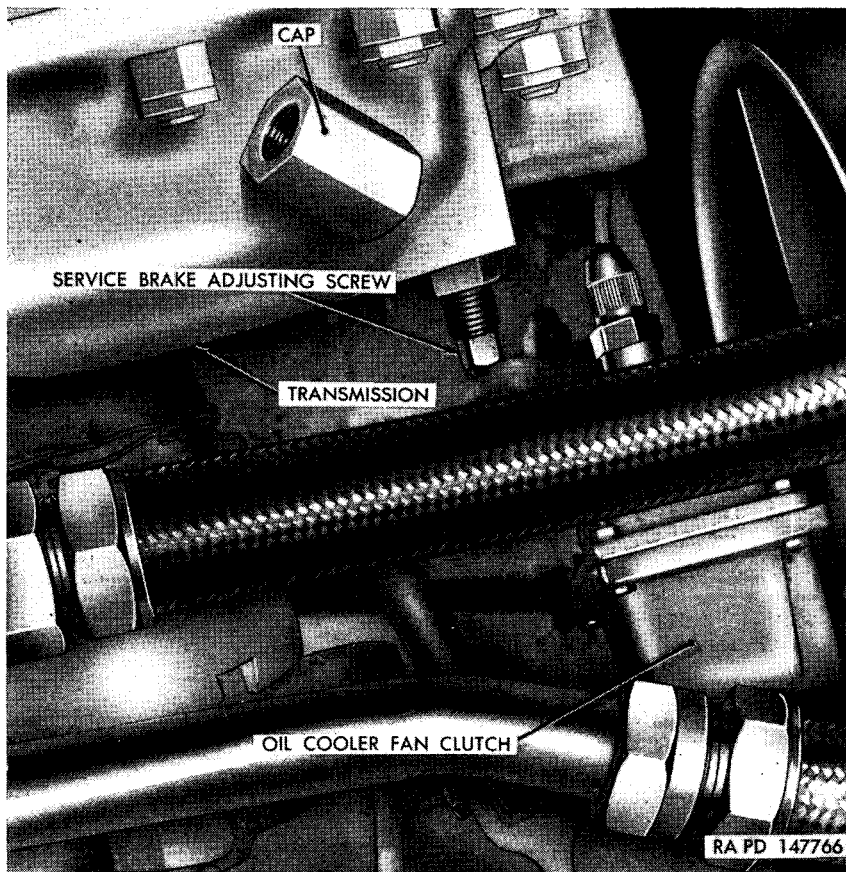
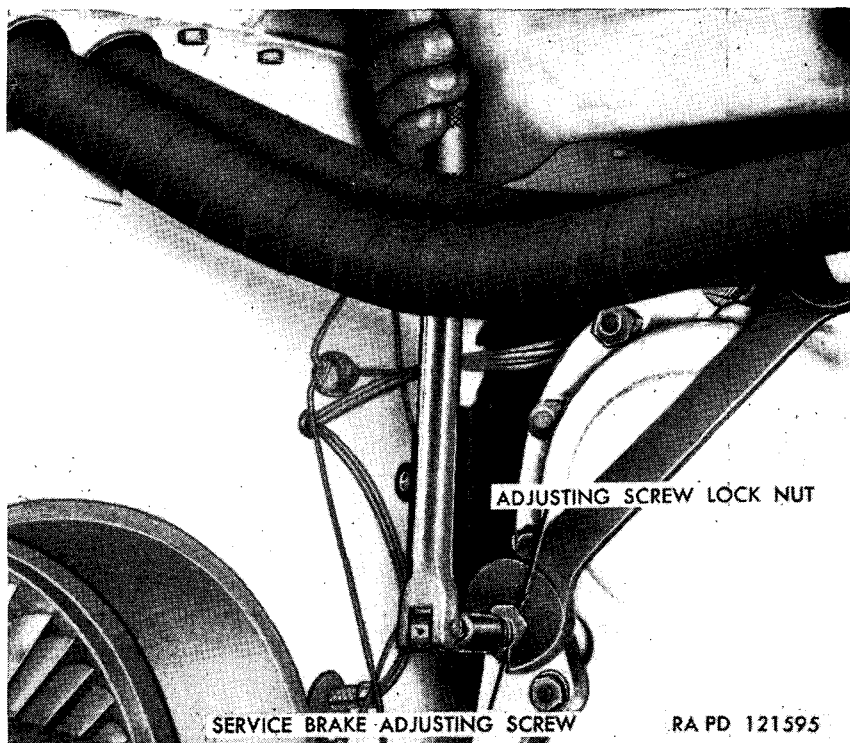

Figure 280. Service brake adjusting screw cap—removed.
Figure 281. Adjusting service brakes.
- (1) *General.* A choice of two methods of brake check and adjustment are available ((2) below). Adjustment by either method is effected by shifting the position of the stationary cam ring of the disk-type brakes. A service brake adjusting screw (fig. 280) (with a worm thread on internal end) projects through each end cover of the transmission and provides an external means of adjusting brake clearance. The screw is covered by a cap (fig. 280). Turning the service brake
adjusting screw (fig. 281) actuates an internal worm, which causes rotation of the stationary cam ring.
parking brake (par. 13) if it is engaged. Remove engine compartment left and right rear grille doors (fig. 101). Remove the cap from the service brake adjusting screw (fig. 280) and loosen the lock nut. Turn the adjusting screw (fig. 281), so that the brake linkage rod travel is between $1\frac{3}{16}$ and $1\frac{27}{32}$ inches from the released to the fully applied positions of the service brake pedal ((2) (a) above). To tighten the brakes, turn the right service brake adjusting screw counterclockwise and turn the left service
After final adjustment, lock the brake adjusting screw by tightening the adjusting screw lock nut (fig. 281), and install the brake adjusting screw cap. Install the two brake linkage access hole covers (fig. 285). Install the engine compartment left and right rear grille doors (fig. 101).
- (b) Alternate method of service brake adjustment is the same on both right and left sides of transmission. Release the parking brake (par. 13) if it is engaged. Remove engine compartment left and right rear grille doors (fig. 101). Remove the cap from the service brake adjusting screw (fig. 280) and loosen the lock nut. Adjust (fig. 281) in the direction of the arrow, adjacent to each adjusting screw, until the "A" lines up with base line. Lock brake adjusting screw with lock nut and install cap (fig. 280). Install engine compartment right and left rear grille doors (fig. 101). Install right and left side access doors on rear of hull (fig. 285).